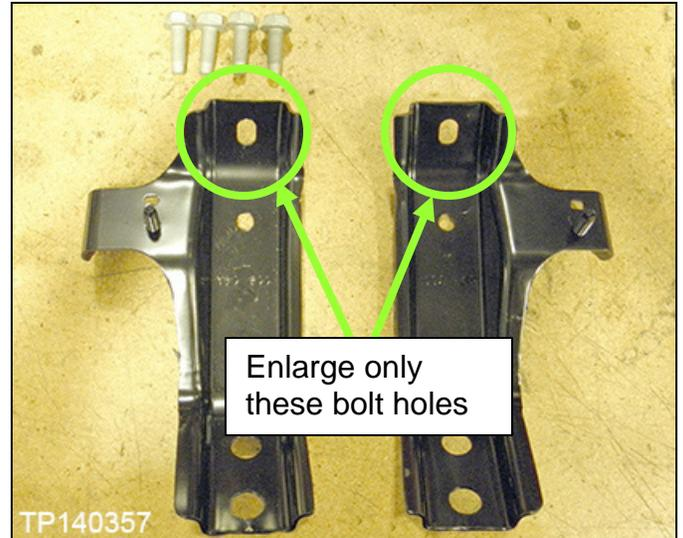

Figure 2
- b. With a  $\frac{1}{2}$ " drill bit, enlarge the bolt holes indicated in Figure 2